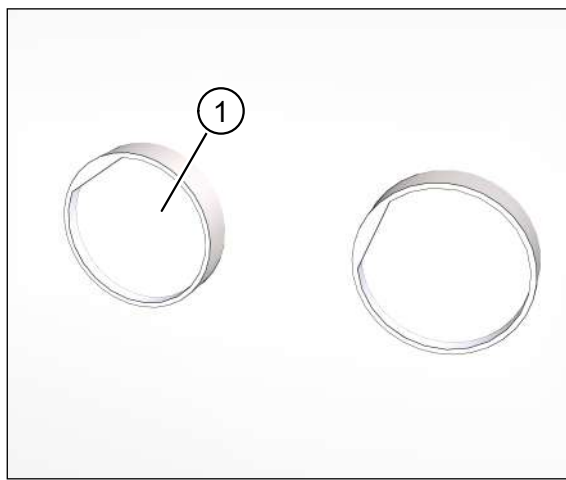

Fig. 39: Installation kit plastered on the outside
- ▶ Remove the two protective sleeves (item 1 in Fig. 39).